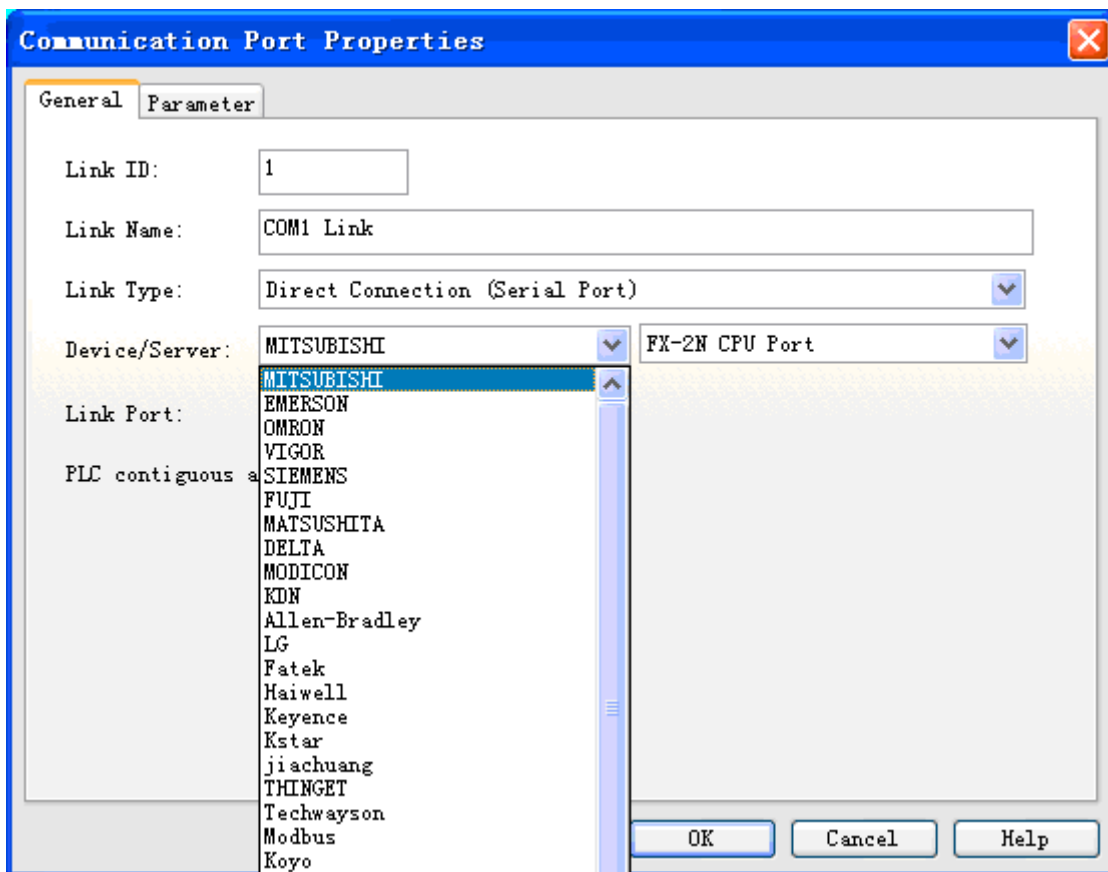

Figure 6-4 Dialog box for communication connection setting of new item
- ✓ Enter project name in column “Project Name”; select one saving position for the project in column "Position"; select “OP843A(480*272 4.3’)” in column “Model Selection” (The 4.3-inch HMI is just taken for example. Users can select other models as required); select “Horizontal” in column “Display Mode” (Users can select vertical display as required). After finishing the setting, information just set by users will display in the below module “Model Parameter”. Users can click “Next” after confirmation to pop up the dialog box as shown in figure 6-4.